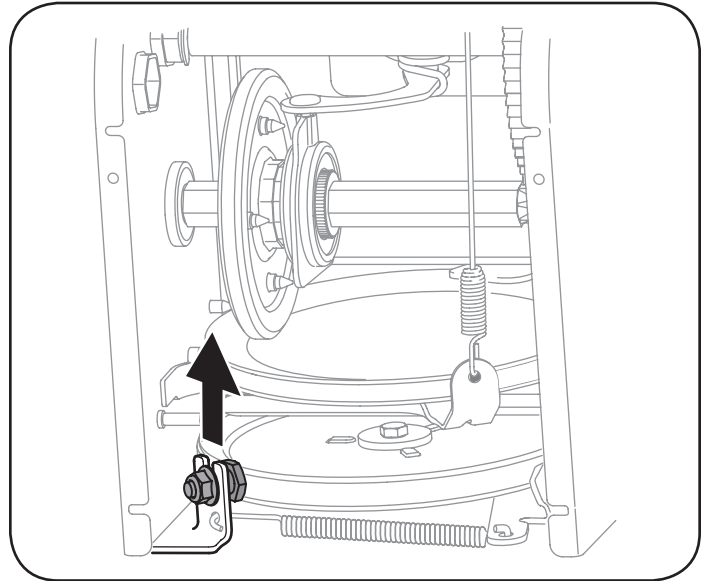

Figure 32
- Loosen and remove the shoulder screw which acts as a belt keeper. Refer to Figure 32.